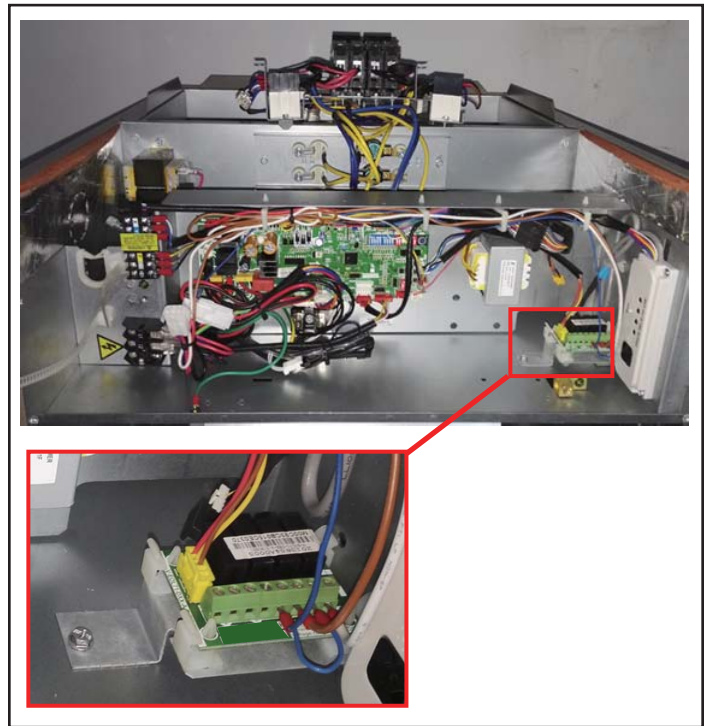

Figure 15. Secure Relay
16. Secure the relay to the bottom of the VVCA control box as shown in figure 15.